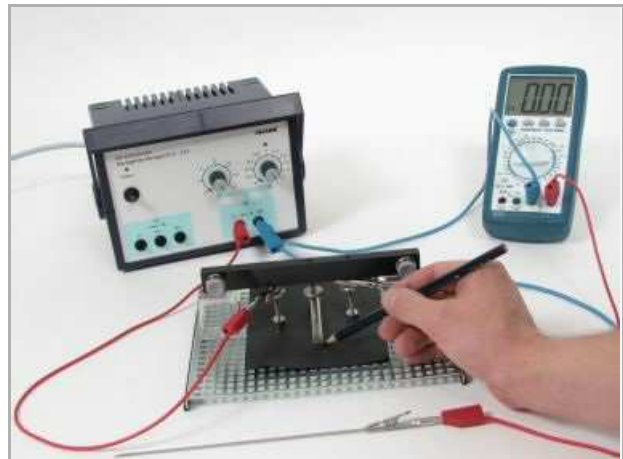

Fig. 15
- Mark the position of the rod electrode on the carbon paper, encircling it with the pencil (Fig. 15).